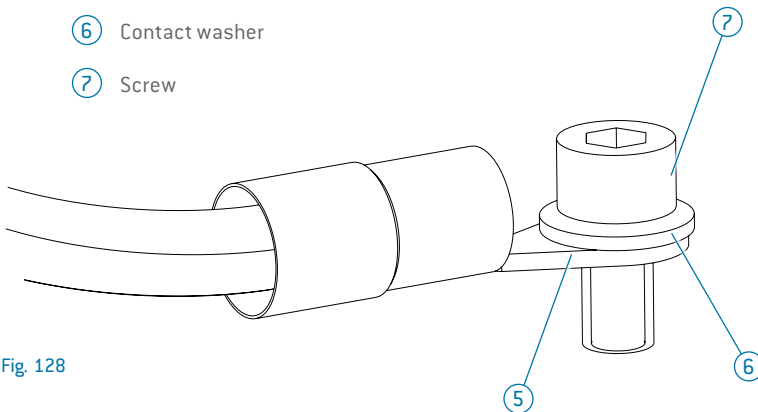

Fig. 128
The protective-conductor terminal must be structured as described in Section 7.6, Fig. 128 and 129.
- If the receiver ① is operated without additional screw-on parts ②, the protective-conductor terminal should be attached at the position marked ④ in Fig. 111; see Table Section 6.14 for the prescribed torque. The protective-conductor terminal must be structured as described in Section 7.6, Fig. 128 and 129.
- If the receiver ① is operated with additional screw-on parts (e.g., fixed mounting frame ② or slide mount 7.6.3), the protective connection should be attached at the positions ④ marked there. The protective connection is then realized via the mounting points shown ③; comply with the torque specifications in Table Section 6.14 in this case too.
- On the 12-Flex FOUR A Receiver slide mount without platform flange ①, the protective connection is realized via the protective-conductor terminal ④.
- An M6 thread is provided for the terminal. The protective-conductor terminal must be structured as described in Section 7.6, Fig. 128 and 129.
- On the 12-Flex TWO M Receiver slide mount with platform flange ①, the protective connection is realized via the protective-conductor terminal ④.